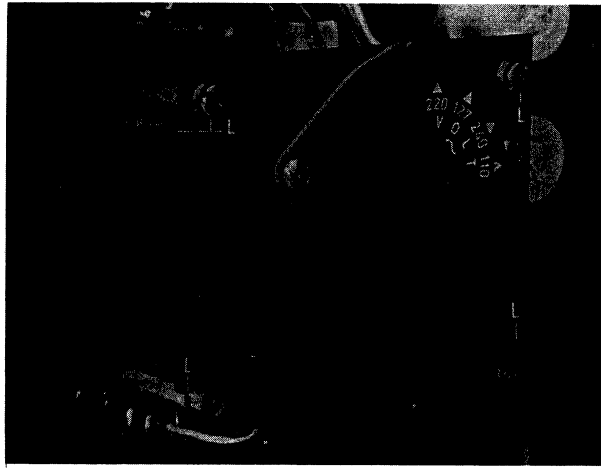

Fig. 3.19. Dismantling
- Remove the four screws L (when refitting the transformer do not forget the earth wire of the voltage quintupler), Fig. 3.19.